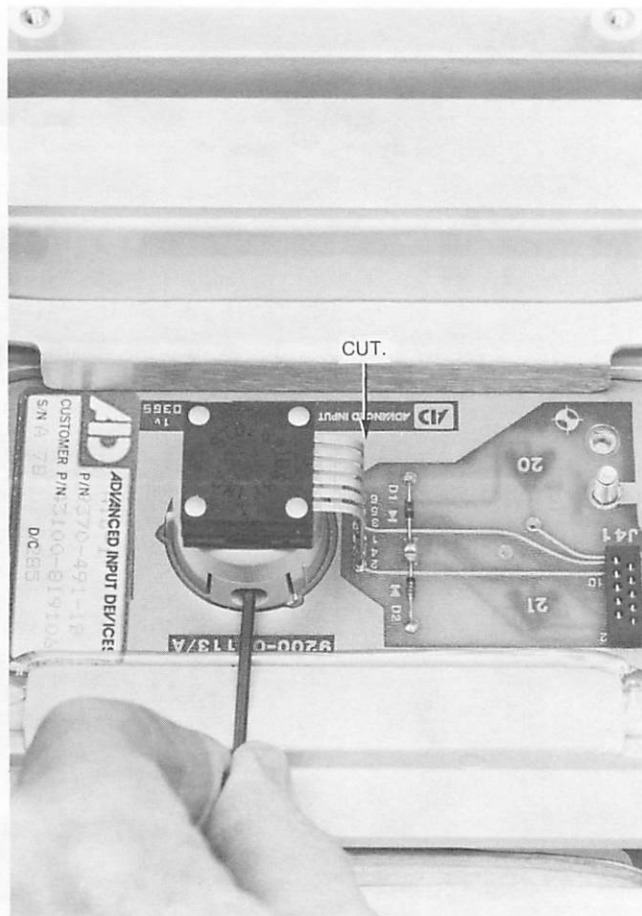

Figure 4-10. ECG Knob Removal.
3. Insert a 1/16 inch allen wrench through the hole at the top of the switch (inside the instrument) and loosen the set screw. See Figure 4-10.
3. Clip the six switch conductors near the point where they bend. See Figure 4-10.